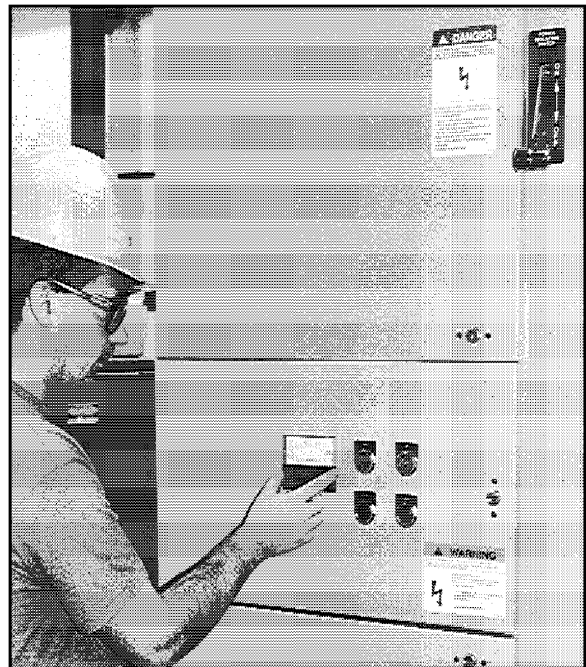

Fig. 1 Inspect The Controller
- 1) Make an immediate inspection for any damage which might have occurred during shipment (Fig. 1). If damage is found, it should be noted with the carrier prior to accepting the shipment, if possible.